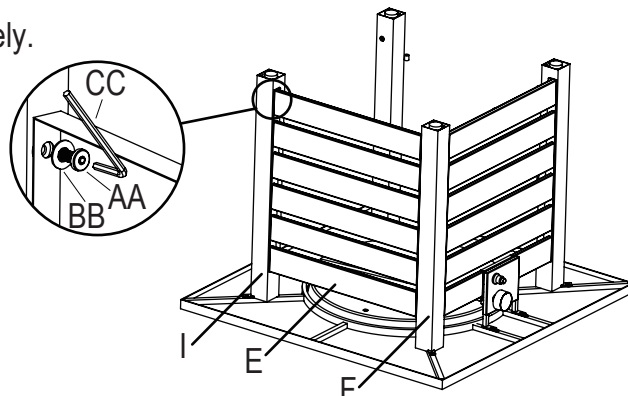

Figure 4
- Attach right panel (F) to front-right leg (F) and back-right leg (I) with bolts (AA) and washer (BB) using hex screw driver (CC), (see Figure 4).